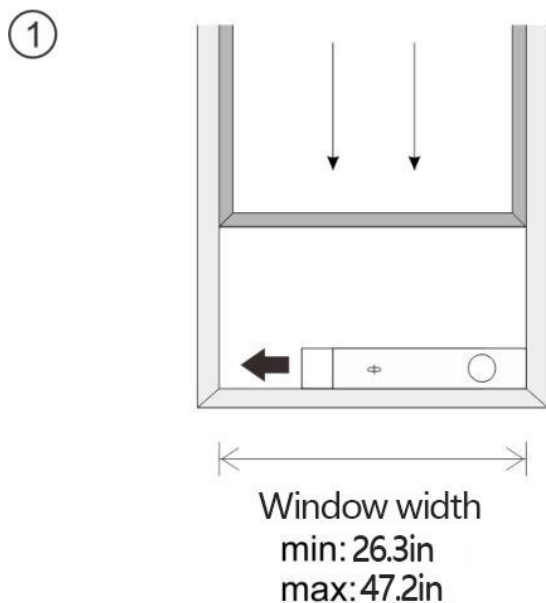
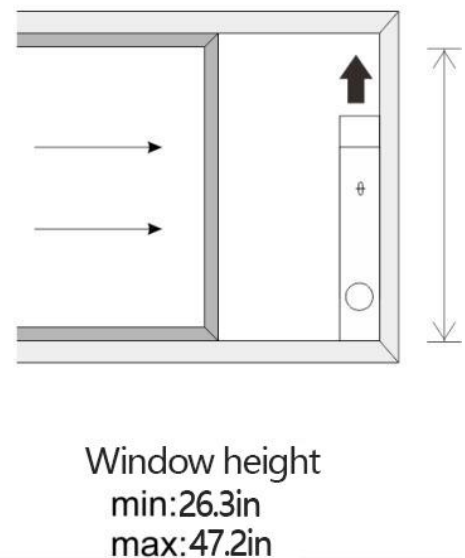

Fig.5
Fig.5a
The installation manner of window slider kit is mostly in “horizontal” or “vertical”. As shown Fig.5 and Fig.5a, check the min. and max. size of the window before the installation.
1. Install the window kit on the window (Fig.5, Fig.5a);